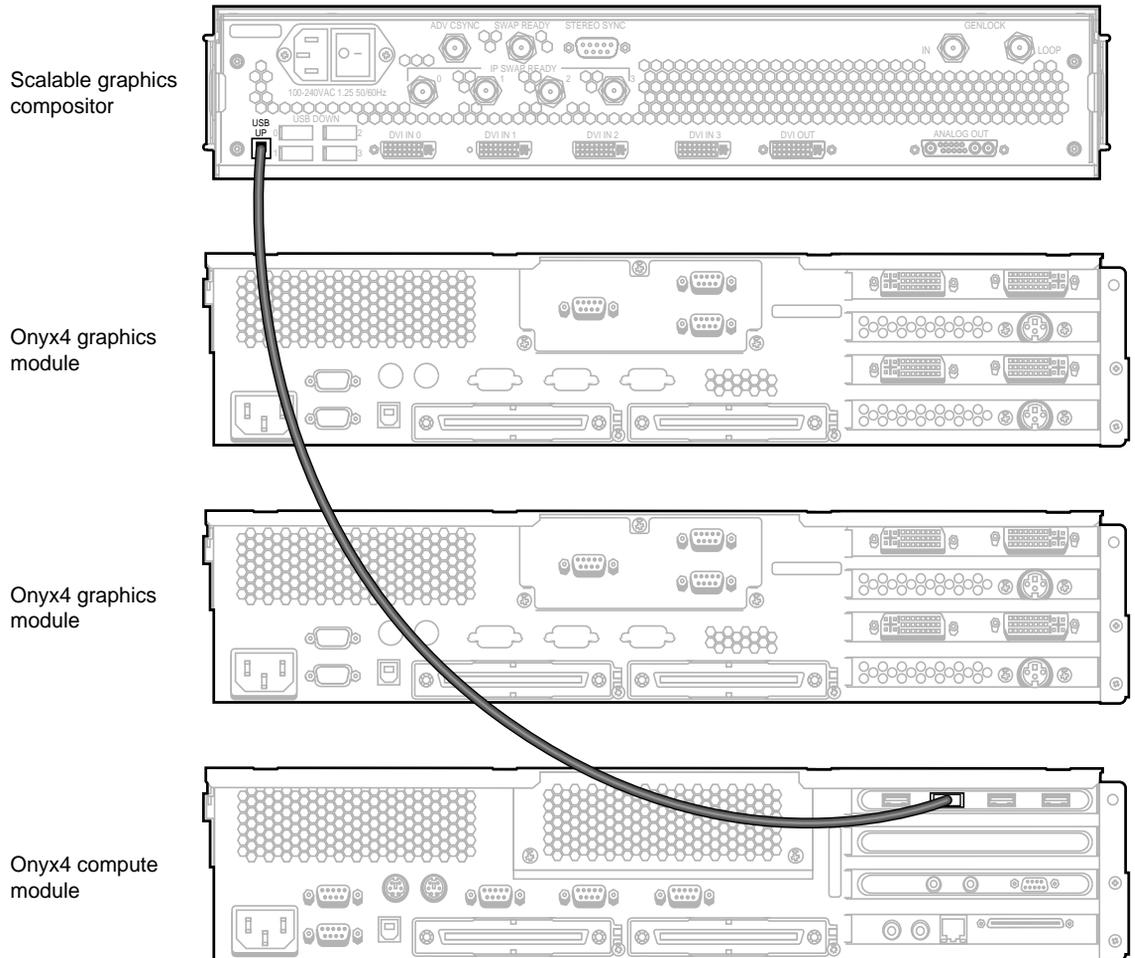

Figure 2-4 Onyx4 USB Connection Example
- Using a USB cable, connect the **USB UP** port on the compositor to a USB connector port on the USB PCI option card installed in the Onyx4 compute module (as shown in Figure 2-4):